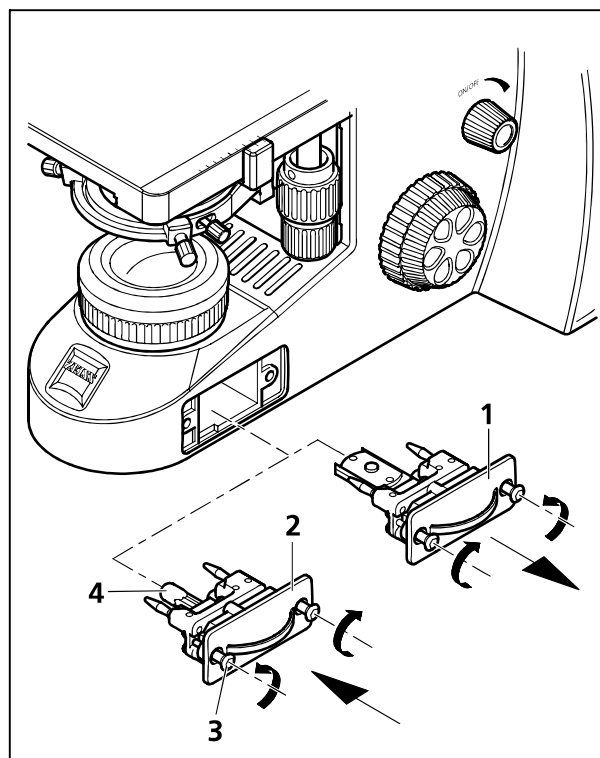

Fig. 13 Replacing the 6V 30W halogen lamp or the LED illumination module
- Loosen both fastening screws (Fig. 13/3) of the illumination module (Fig. 13/1 or 2). In doing so, slightly press the screws against the spring and turn them by 90°: Turn left screw clockwise and right screw counterclockwise.
- Pull the illumination module (Fig. 13/1 or 2) out of the stand.
- If the stand is equipped with a 6V 30W halogen lamp (Fig. 13/2), remove the halogen lamp (Fig. 13/4) from the lamp carrier and insert the new halogen lamp. Do not touch the new lamp with naked fingers as this will reduce lamp life.
- If the stand is equipped with an LED source, replace the complete illumination module including the LED (Fig. 13/1).
- Push the illumination module (Fig. 13/1 or 2) back into the stand and lock it by means of the two screws (Fig. 13/3). In doing so, slightly press the screws against the spring and turn them by 90°: Turn left screw counterclockwise and right screw clockwise.